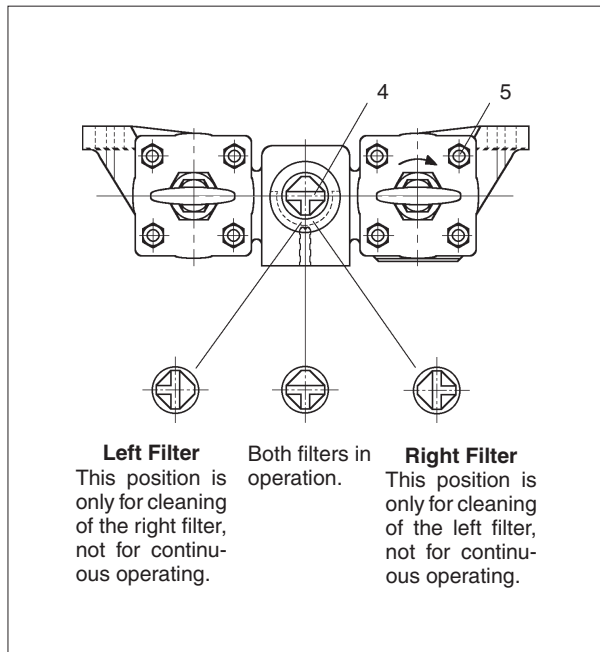

Fig 2. Fuel oil split filter (top view).
3) Position of three way cock, see fig 2.